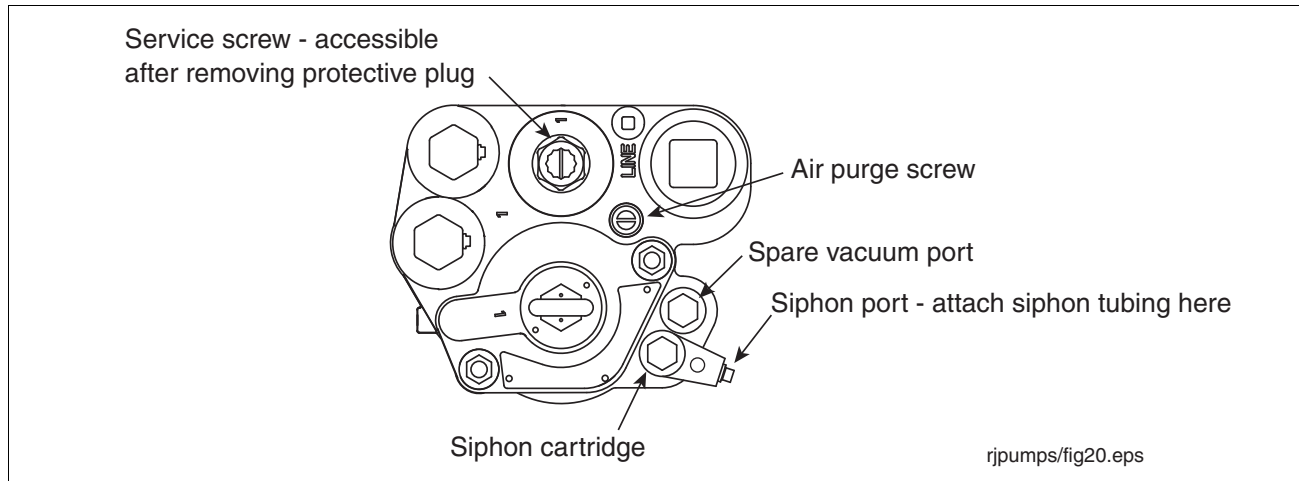

Figure 33. Siphon Connection
The siphon port for The Red Jacket STP is in a siphon assembly that fits into one of the two vacuum ports (see Figure 33). The port end can be swiveled after loosening the hex on top to accommodate the incoming siphon tube. Torque the siphon assembly to 15-30 ft-lbs (20-41 N•m) after positioning.
2. Open the air purge screw 2 - 3 turns counterclockwise (see Figure 33).